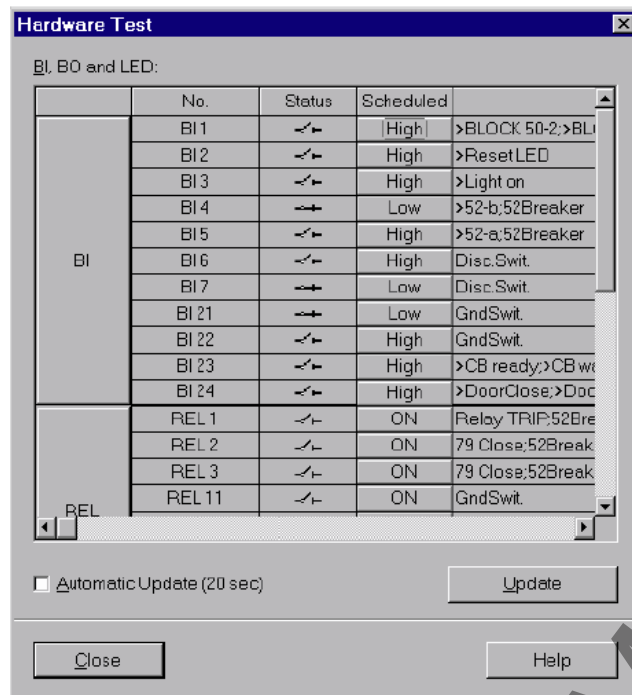

Figure 3-23 Test of the Binary Inputs and Outputs — Example
- Double-click in the list view on **Device inputs and outputs**. The dialog box with this name is opened (see Figure 3-23).